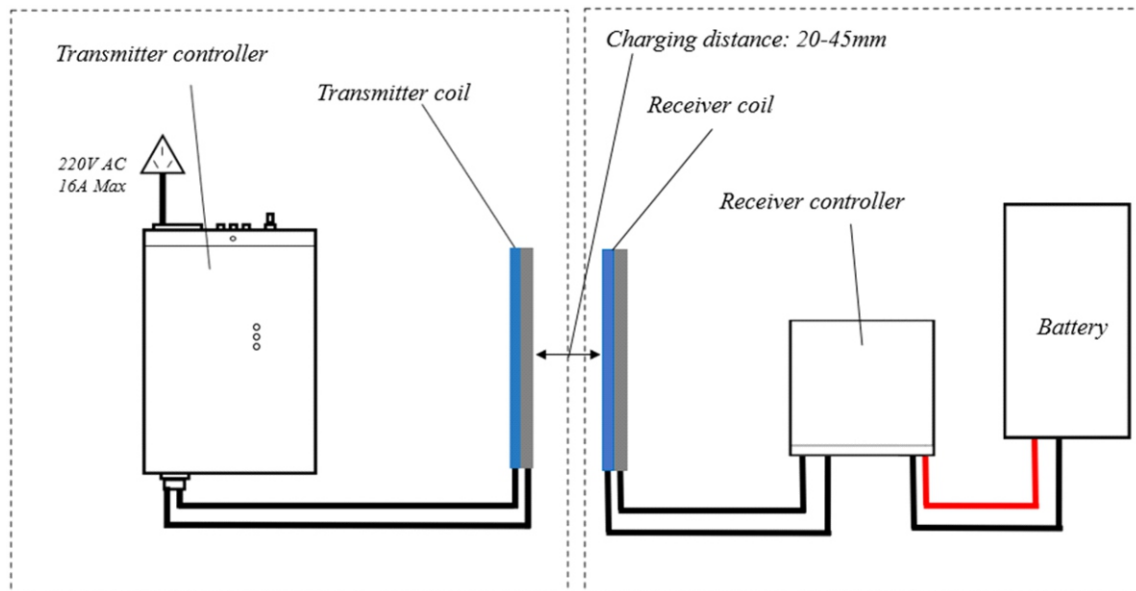

Figure 6 System wiring diagram
- 2.The connection mode is shown in Figure 6. The normal working vertical range of the Transmitter coil and the receiver coil is 20-45mm (the best charging distance is 40mm); Single direction (X or Y) offset is $\pm 40\text{mm}$, both directions (X and Y) offset is $\pm 25\text{mm}$.
Note: The coils offset is shown in Figure 6. Assuming to be installed at the bottom , the vertical (Z-axis) direction offset between the coils is 20 ~ 45mm, the single direction (X or Y) offset is ± 40mm, and the two directions (X and Y) offset is ±25mm.
Step 1: In the power off state, install the Transmitter end and receiver end respectively according to Figure 6. Connect the input end of the transmitter controller to AC220V.